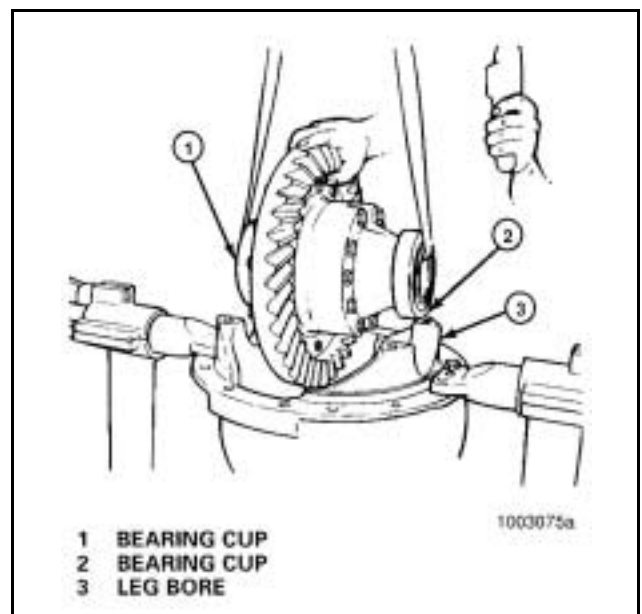

Figure 97
4. Install the bearing cups over the bearing cones that are assembled on the case halves. **Figure 97.**
5. Safely lift the differential and ring gear assembly and install into the carrier. The bearing cups **must** be flat against the bores between the carrier legs. **Figure 97.**